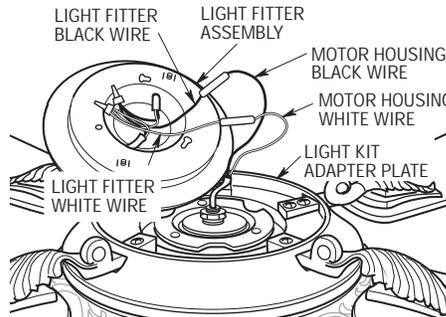

Figure 9
- 4. Securely connect the black wire connector of the light fitter assembly to the black motor wire connector. Securely connect the white wire of the light fitter assembly to the white motor wire (Figure 9).